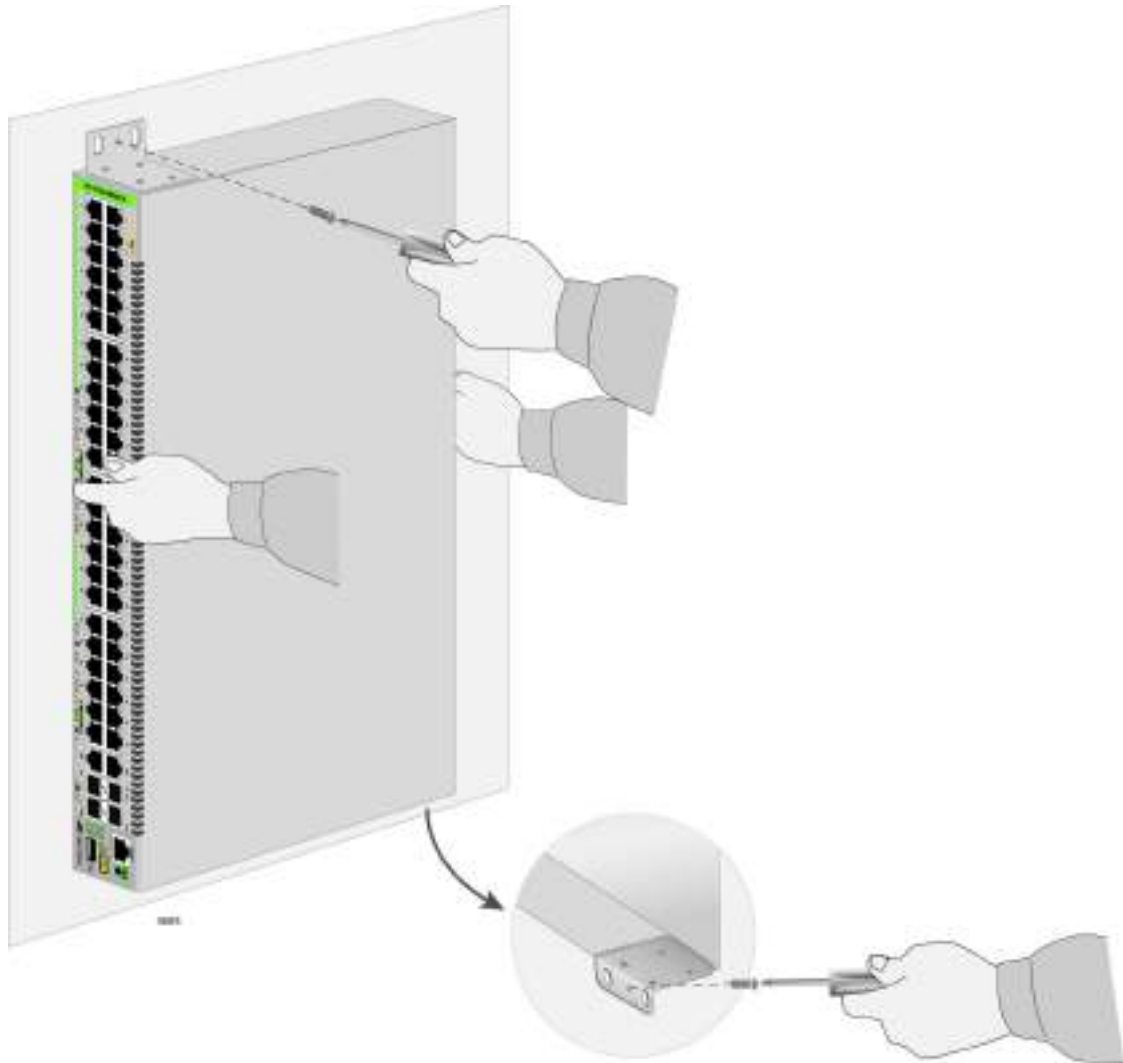

Figure 37. Securing the Switch to the Plywood Base
3. Have another person hold the switch on the plywood base on the wall while you secure it with the two provided screws. See Figure 37 on page 84.